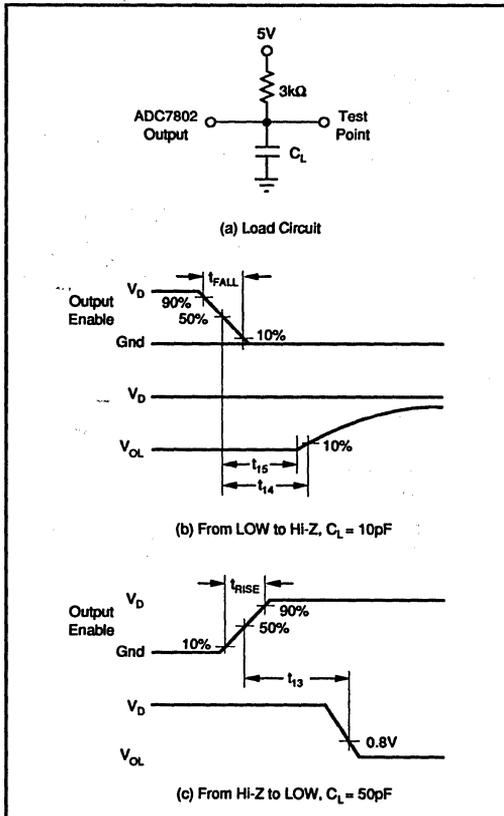

FIGURE 7. Measuring Active LOW to/from Hi-Z State.
NOTES: (1) All input control signals are specified with $t_{\text{RISE}} = t_{\text{FALL}} = 20\text{ns}$ (10% to 90% of 5V) and timed from a voltage level of 1.6V. Data is timed from V_{RH} , V_{RL} , V_{OH} , or V_{OL} . (2) The internal RD pulse is performed by a NOR wiring of $\overline{\text{CS}}$ and $\overline{\text{RD}}$. The internal WR pulse is performed by a NOR wiring of $\overline{\text{CS}}$ and $\overline{\text{WR}}$. (3) Figures 7 and 8 show the measurement circuits and pulse diagrams for testing transitions to and from Hi-Z states.